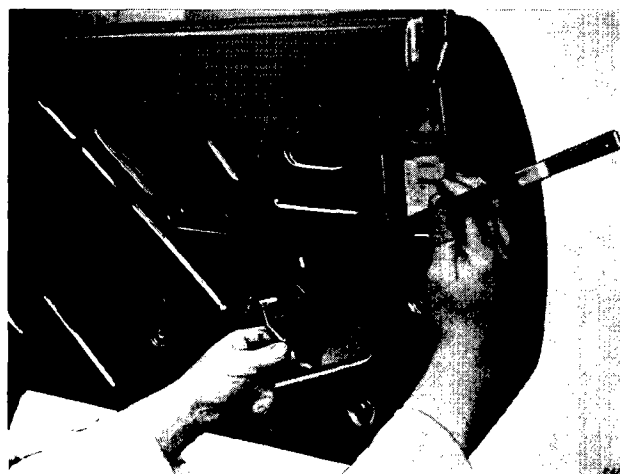

Fig. 31. Removing remote control from door
- (b) Remove the spring clip (27) and waved washer (28) and release the link arm from the lock assembly.
- (c) Take out three screws (21) and remove the remote control mechanism (14) from the door (Fig. 31).